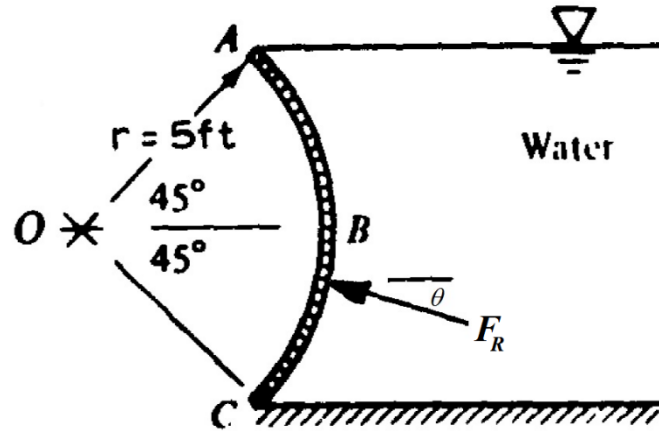

Figure 1
1. Curved wall ABC in Figure 1 is a quarter circle 9 ft wide (into the paper). Compute the (a) horizontal  $F_H$  and (b) vertical  $F_V$  hydrostatic forces on the wall and (c) the line of action (i.e., the angle  $\theta$ ) of the resultant force  $F_R$ . ( $\gamma_{\text{water}} = 62.4 \text{ lb/ft}^3$ )